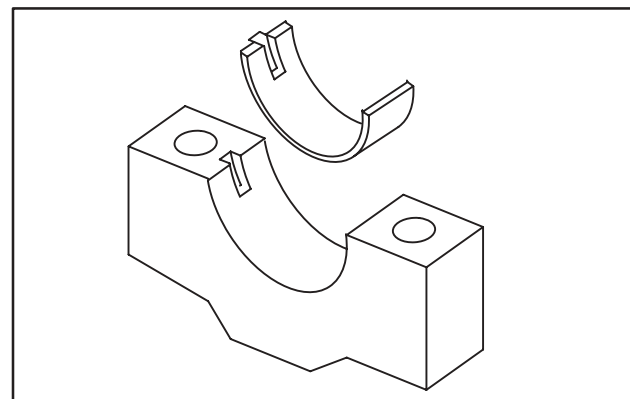

Fig. 2 – Installing Lower Main Bearings
2. Install lower main bearings in bearing caps, Fig. 2.